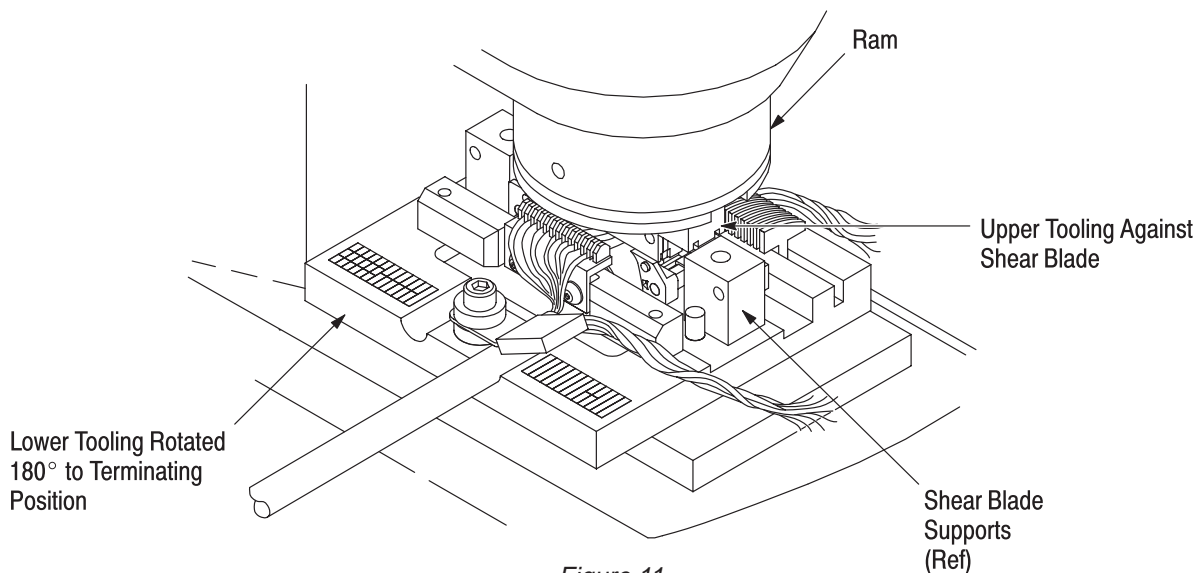

Figure 11
1. Lift and rotate the lower tooling 180° so that it is under the ram as shown in Figure 11.
2. Rotate the handle forward to lower the upper tooling against the shear blade as shown in Figure 11. When the ram is FULLY bottomed, hold down on the lower tooling, and return the handle to its original position.
10. Rotate the handle forward to lower the upper tooling against the shear blade (refer to Figure 11). When the ram is FULLY bottomed, hold down the lower tooling, and return the handle to its original position.